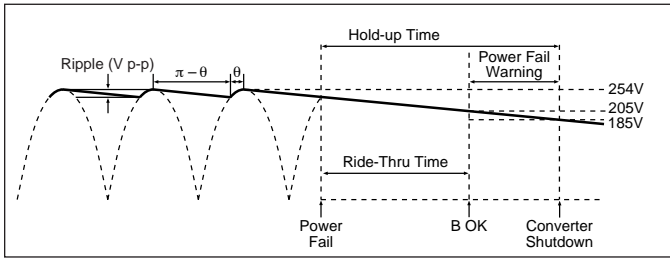
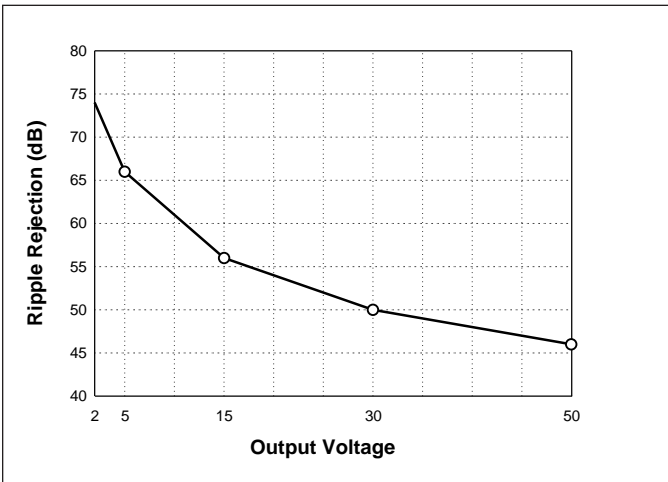

Figure 13—Hold-up time
Figure 17—Converter ripple rejection vs. output voltage
**Hold-up Capacitors.** Hold-up capacitor values should be determined according to output bus voltage ripple, power fail hold-up time, and ride-through time (see Fig. 13). Many applications require the power supply to maintain output regulation during a momentary power failure of specified duration, i.e., the converters must hold-up or ride through such an event while maintaining undisturbed output voltage regulation. Similarly, many of these same systems require notification of an impending power failure in order to allow time to perform an orderly shutdown.
The power fail warning time ( $\Delta t$ ) is defined as the interval between B OK and converter shutdown (EN) as illustrated in Fig. 13. The Bus-OK and Enable thresholds are 205V and 185V, respectively. A simplified relationship between hold-up time, operating power, and bus capacitance is obtained by inserting these constants:
For example, a converter whose output is 15V and nominal input is 300V will provide 56dB ripple rejection, i.e., 10V p-p of input ripple will produce 15mV p-p of output ripple (see Fig. 17). Equation 3 is again used to determine the required capacitance. In this case,  $V_1$  and  $V_2$  are the instantaneous values of bus voltage at the peaks and valleys (see Fig. 13) of the ripple, respectively. The capacitors must hold up the bus voltage for the time interval ( $\Delta t$ ) between peaks of the rectified line as given by:
**Determining the Ripple on the Output of the DC-DC Converter.** Figure 17 is used to determine the ripple rejection of the DC-DC converter and indicates a ripple rejection of approximately 60 dB for a 12V output. Since the ripple on the bus voltage is 12Vac and the ripple rejection of the converter is 60 dB, the output ripple of the converter due to ripple on its input (primarily 120 Hz) will be 12mV p-p. Note that 2nd Generation converters have greater ripple rejection than either VI-200s or VI-J00s.